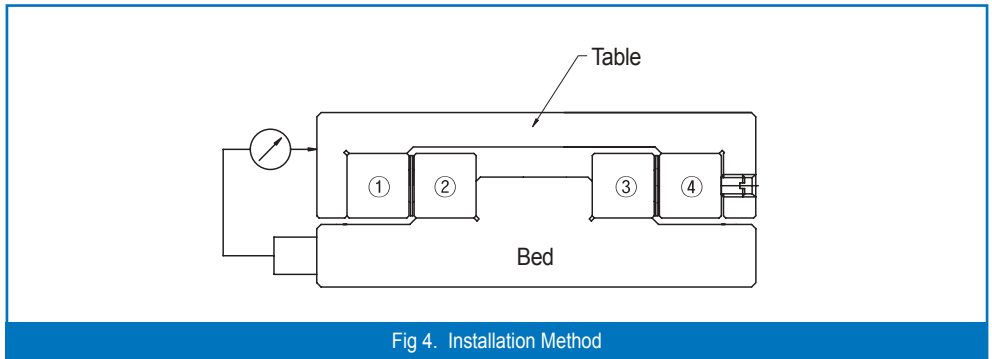

Fig 4. Installation Method
- 1) Press rails ①, ② & ③ firmly against the bed and the table, while correctly positioning the mounting surfaces. Firmly tighten the rail-mounting bolts.
- 2) Temporarily fasten rail ④ to the table and make a sure some space for inserting Roller Cage from the rail ends.
- 3) Position a dial gauge as shown in Fig. 4. While gently pressing the table, tighten Adjust Bolt uniformly until there is no slack. Then, attach stoppers to the rail ends, and set the dial gauge to zero.
- 5) Slide the table from the right and left and complete the installation by mounting the remaining Adjust Bolt(Ⓐ, Ⓒ in Fig.4) and the Tightened Bolt. at this displacement in the dial pre-load amount. Tighten the mounting bolts at the adjusted positions securely. move the table to the side, finish the installation as tightening the remaining adjustment bolts Ⓐ, Ⓒ in the same way.